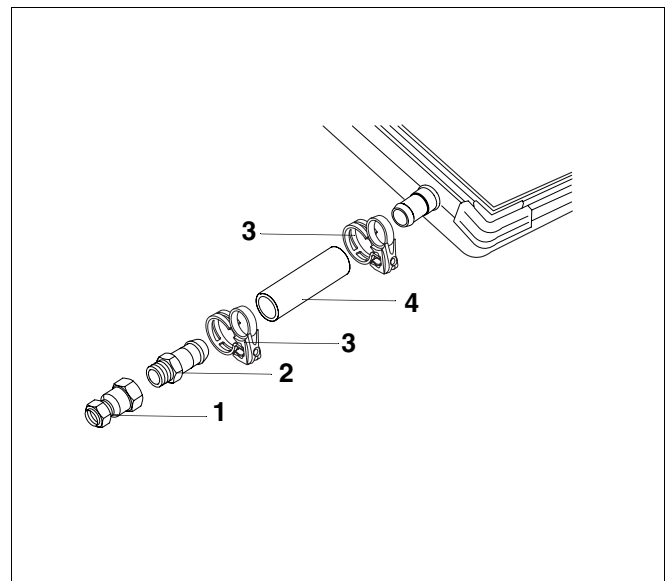

Fig. 6 Install the straight compression fitting $Rp\frac{3}{4}$.
- Connect the hose nipple (Fig. 6, **Item 2**) with the straight compression fitting $Rp\frac{3}{4}$ (Fig. 6, **Item 1**).